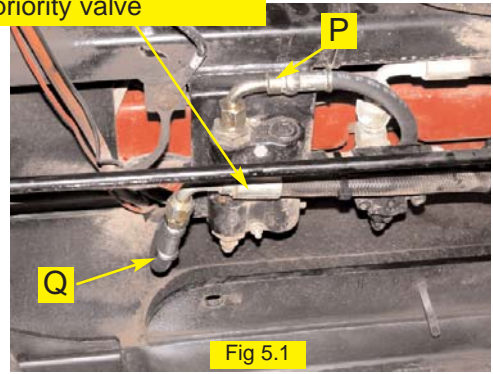

Fig 5.1
Route the provided excess flow hose (Q) from the EF port of the hydraulic control block back to the excess flow hose on the priority valve. Remove the hose from the priority valve and attach it to the excess flow hose (Q). (Figure 5.1 and 5.2)
Route the provided pressure hose (P) from the P port of the hydraulic control block to the excess flow port of the priority valve. Use the provided elbow adapter (F) to attach the pressure hose to the hydraulic control block. (Figure 5.1 and 5.2)